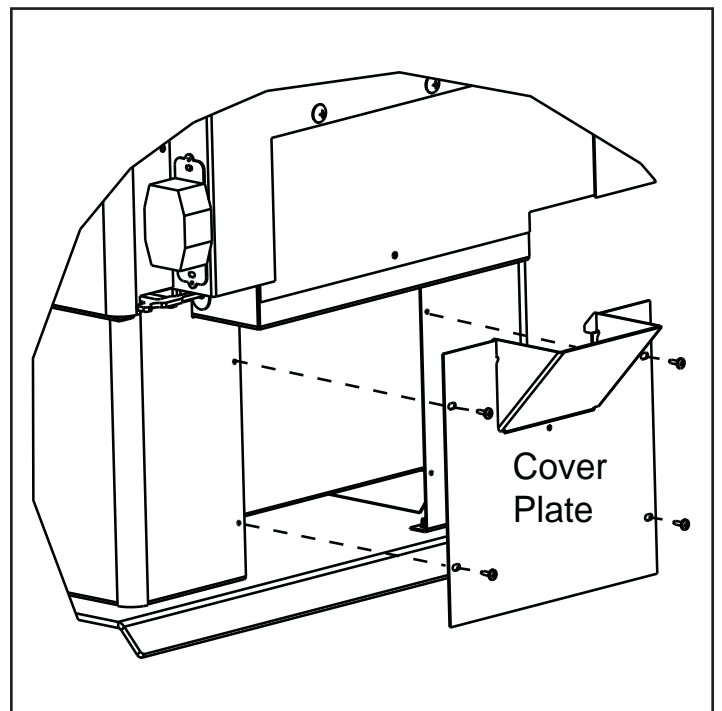

Figure 18.3
**NOTE:** If installing an outside air kit with a pedestal assembly as a floor installation you must attach the enclosed cover plate to the back of the stove. Other wise you may discard this piece. **Figure 18.3.**